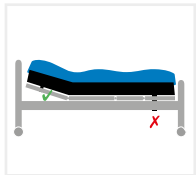

Fig. 1
- Attach straps to moving parts of bed frame making sure they are not twisted. (Fig. 1)